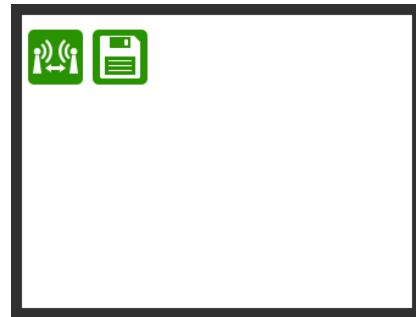

Figure 6-6 Save key
5. In the screen (Figure 6-6) press  Save key